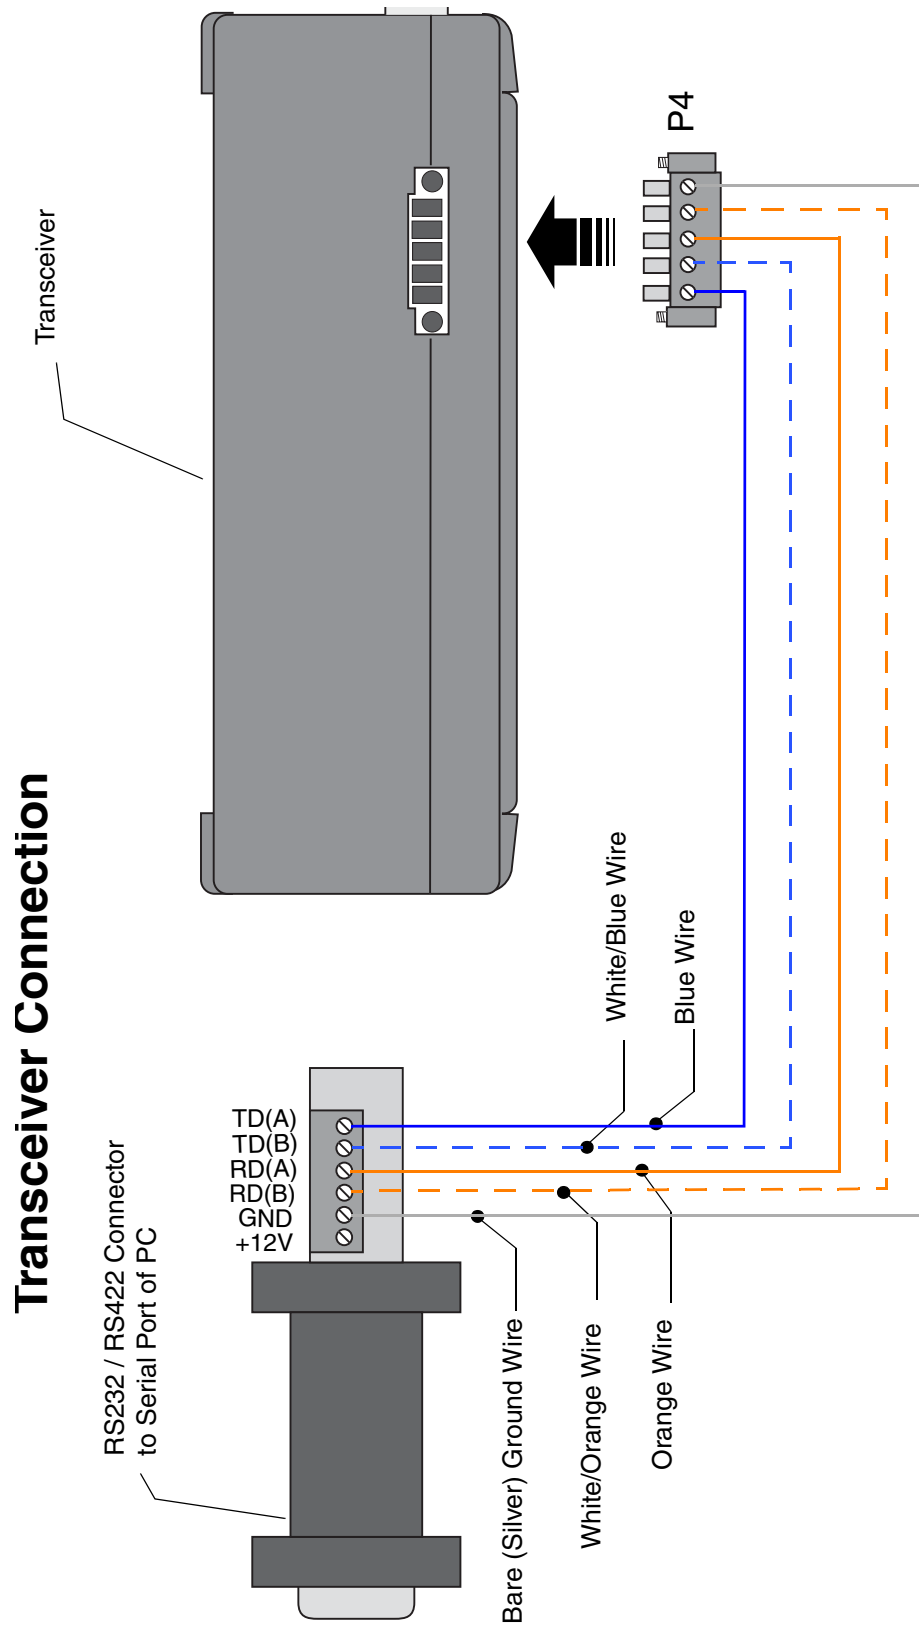

FIG. 6
1. Attach the wires to the terminal block on the Converter and on the connector (P4). See FIG. 6.